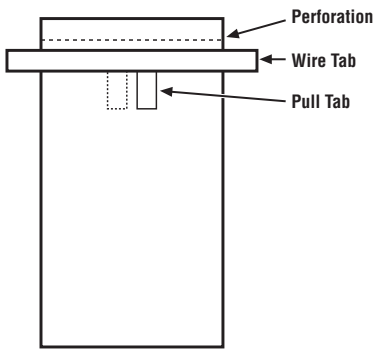

Figure 7-5. Whirl-pak bag. Volunteers can be easily trained to collect water samples with these factory-sealed, disposable bags.
Screw-cap bottles and Whirl-pak bags (Figure 7-5) are among the most popular tools for collecting water samples near the surface. The following steps should generally be taken (USEPA, 1997):
2. Tear off the top of the bag along the perforation above the wire tab just prior to sampling (Figure 7-5). Avoid touching the inside of the bag. If you accidentally touch the inside of the bag, use another one.